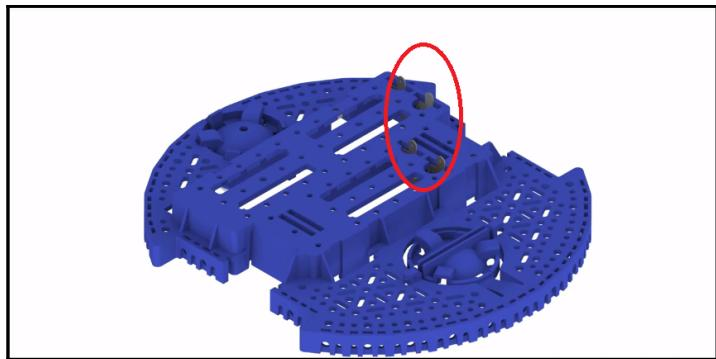

Figure 6.10: Tabs from the battery contact terminals. Image courtesy of Pololu—<https://www.pololu.com>
3. After placing the battery contact terminals, you can use the four terminal tabs to get power from the batteries (*Figure 6.10*):